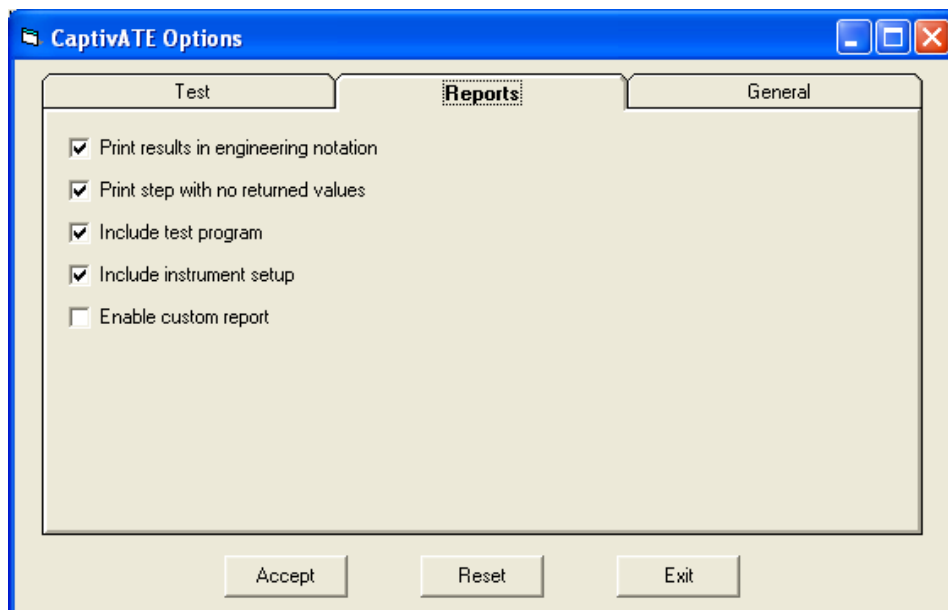

Figure 83 Tools Options: Software Switches to Display Test Results
2. To generate a regular report that includes the maximum amount of data, see Figure 83 . On the Tools/Options/Reports pop-up, check the two “Include . . .” checkboxes. (The two “Print. . .” checkboxes are checked by default.)